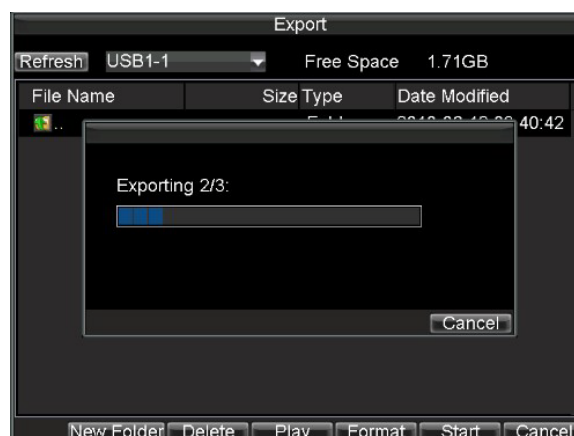

Figure 4. Backup Progress
7. Click Start to begin backup process, shown in Figure 4.